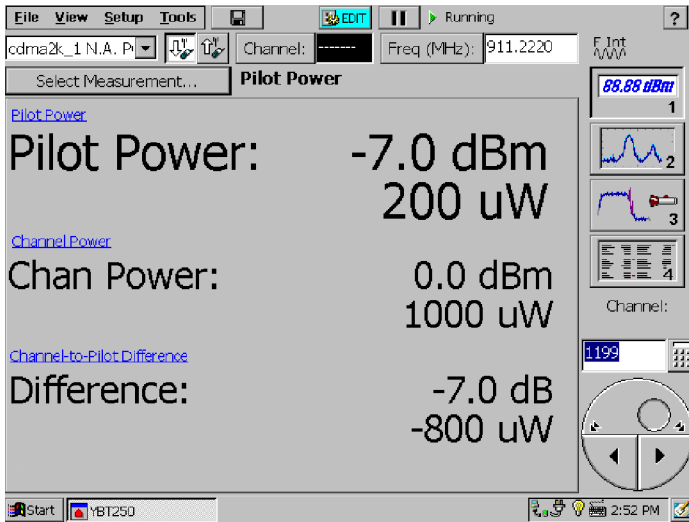

Figure 3-61: A typical Pilot Power display
5. Tap **Pilot Power**. See Figure 3-61.